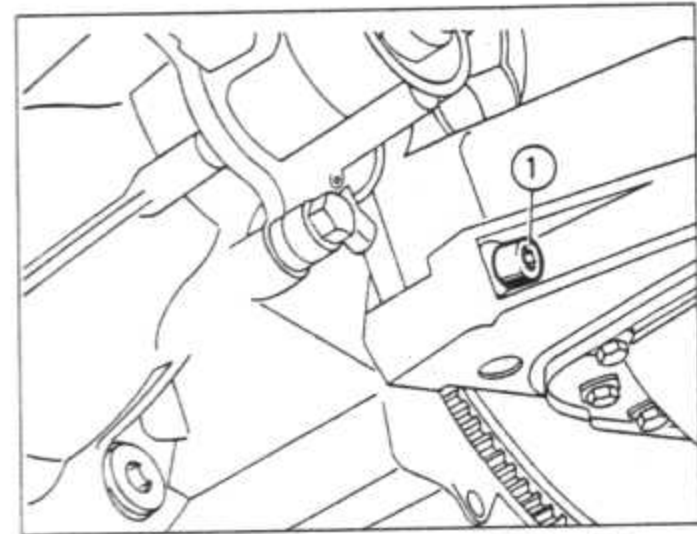

Fig. 13.50 Stiffener bolt (1) (Sec 14)
- 53 Working under the car, unscrew and remove the socket-headed stiffener bolt (1) (Fig. 13.50).